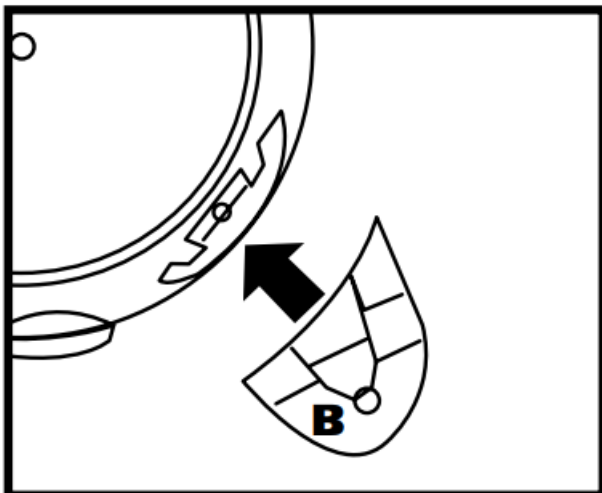

FIGURE 10
9. Take caster foot marked with the letter B and place into slot on right side of tank, also marked with the letter B. **FIGURE 10.**